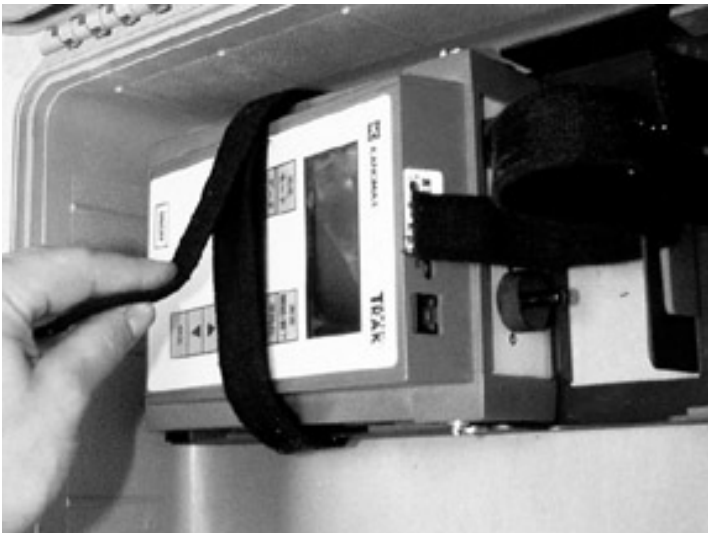

Figure B-9: Tighten the Velcro Strap
- Tighten the Velcro Strap around the DUSTTRAK monitor (see Figure B-9).